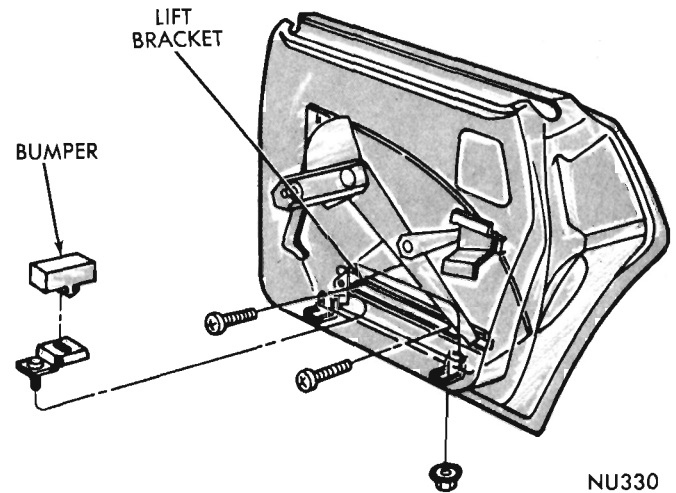
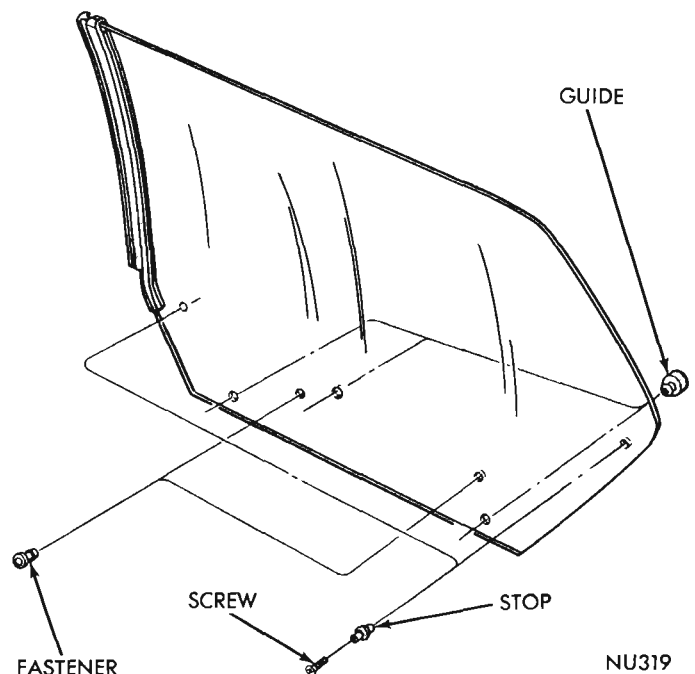

Fig. 28 - Lift Bracket
Fig. 29 - Door Glass Assembly
(4) Remove glass lift bracket to glass fastener screws (Fig. 28).
(5) Move track panel rearward, approximately four inches, and raise door glass to the full-up position.
(6) Raise track panel slowly until up-stop on glass (Fig. 29) are cleared through door.
The door glass to lift channel fasteners are a press fit in glass (Fig. 29) as are the glass to track and guide fasteners. The glass up-stops are retained in the glass with screws.
The glass lift bracket (Fig. 28) is positioned over sliding blocks on the regulator arms. Screws are used to secure the lift channel to the glass fasteners. Lubricate the sliding block contact areas of the lift channel sparingly.